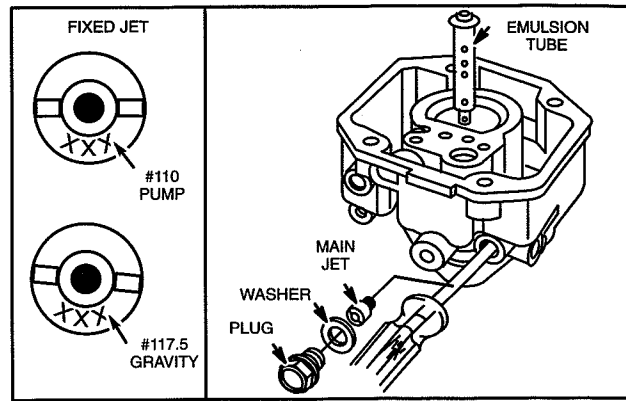

Fig. 112 – Install Main Jet
12. Install fixed main jet with jet screwdriver, Tool #19062, Fig. 112.